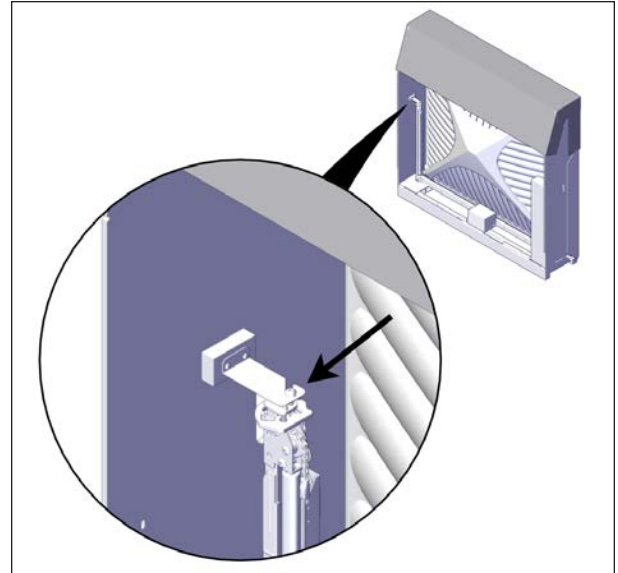

FIGURE 23: LOOSEN TOP SCREW ON JACKS
10. For each jack, use the 7/32" (5.5 mm) Allen key to loosen, but not fully remove, the 3/8" x 1" screw holding the jack to the top bracket see Figure 23. There is one screw per jack. Do not discard this screw and bushing; they are required to assemble the cover.